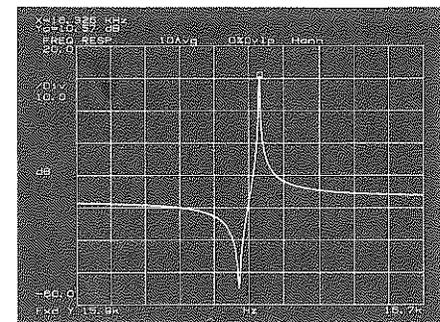

Figure 2-4
4. **Start** Press the **START** key. The zoom measurement will be displayed. For better resolution, repeat the above process using the X-axis marker, or by numeric entry of a new frequency span. Figure 2-4 shows a zoom measurement of the crystal filter at a span of 800 Hz (1 Hz resolution).